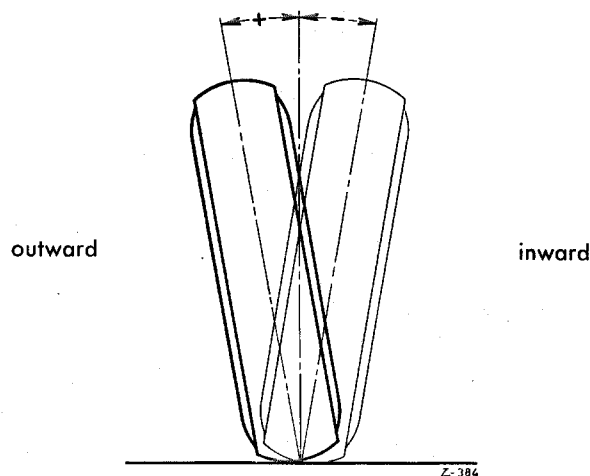

Fig. 40 — 3/1
Camber is the term used to designate the angle which the wheel plane forms with a line drawn at right angles to the road surface. If the wheels are inclined outward at the top the camber is said to be positive (+) and if the wheels are inclined inward at the top the camber is said to be negative (—) (Fig. 40 — 3/1).
Adjustment of camber is carried out by turning the eccentric bolt (7) (Fig. 40 — 3/2). To do this, first back out the hexagon screw (13) and the lock washer (12) and remove it together with the locking plate (11). After unscrewing the hexagon nut (10), camber can be adjusted to the prescribed value with the aid of an SW 19 box wrench.